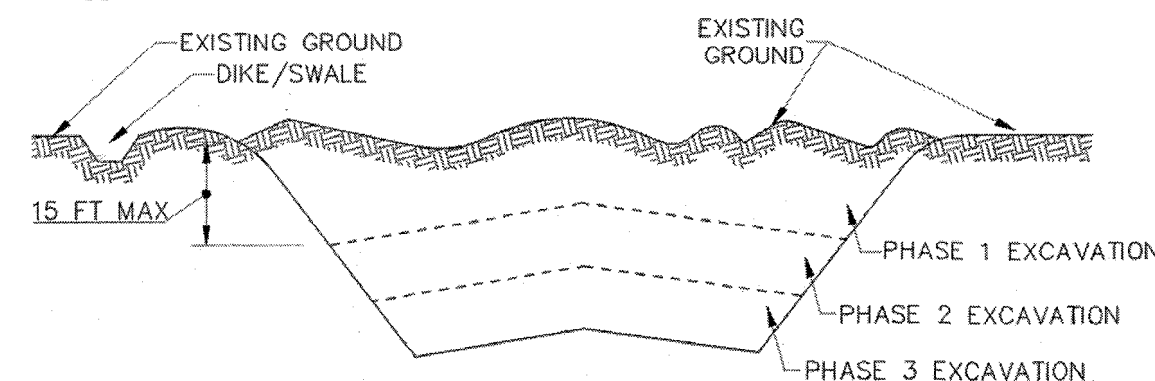

Figure B.1: Incremental Stabilization - Cut
- 2. Construction sequence example (Refer to Figure B.1):